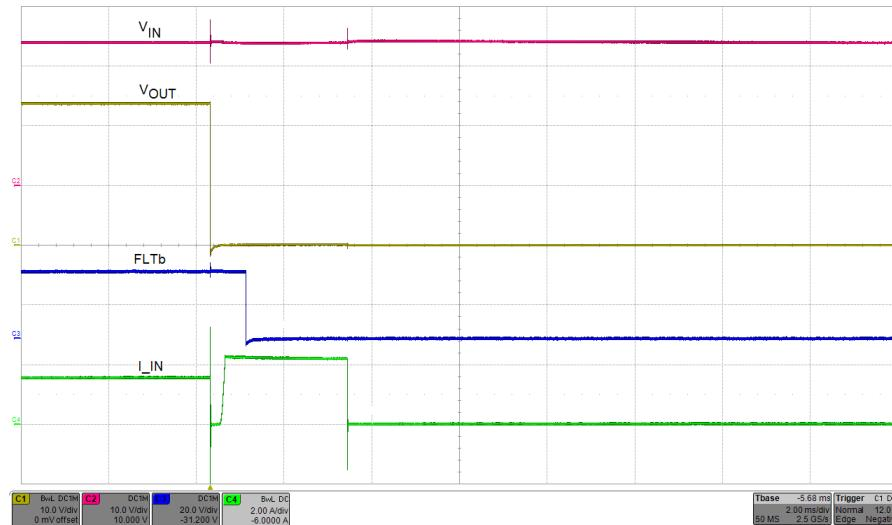

Figure 4-7. Output Short-Circuit Protection
- Use either wire or FET to short the output to ground and verify the output short-circuit response waveform as shown in Figure 4-7.